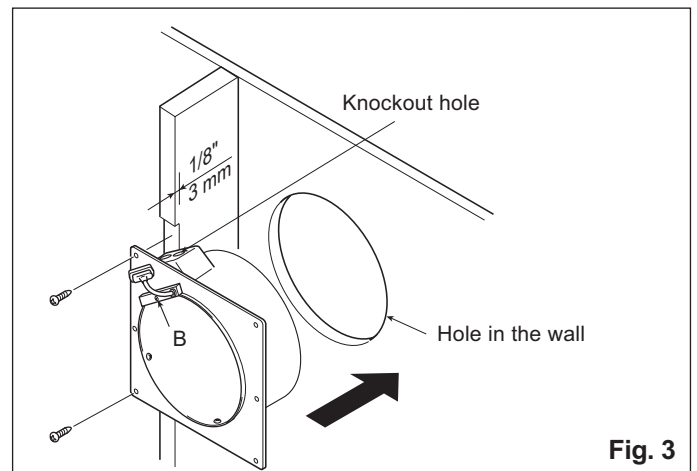

Fig. 3
3. After providing a 3 mm notch in the wall stud, secure the flange to the wall stud with supplied screws (Screw I). (Fig. 3)
4. Remove the junction box cover by removing screw (B).